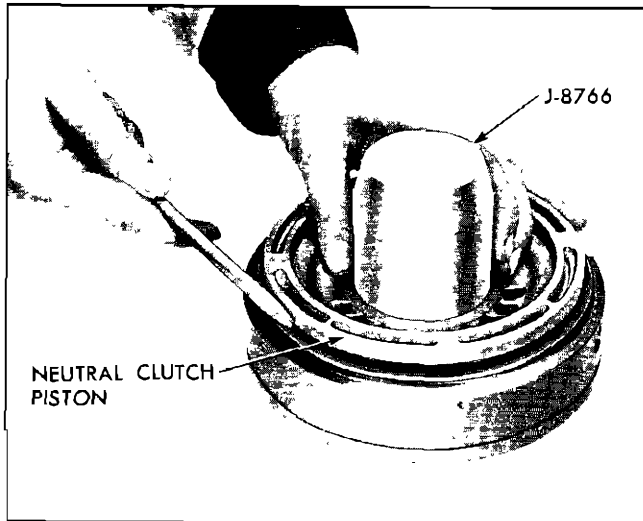

Fig. 86 Installing Neutral Clutch Piston
2. Install J-8766, inner seal protector over neutral clutch inner hub (Fig. 86).